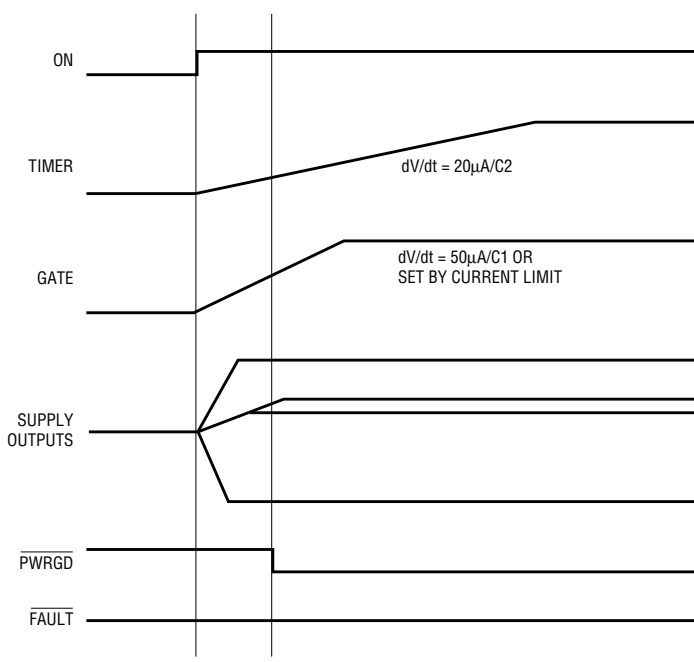

Figure 2. Normal power-up sequence
When the ON pin (5) is pulled high, the pass transistors are allowed to turn on and a 20 μ A current source is connected to the TIMER pin (4) (see Figure 2). The current in each pass transistor increases until it reaches the current limit for each supply.